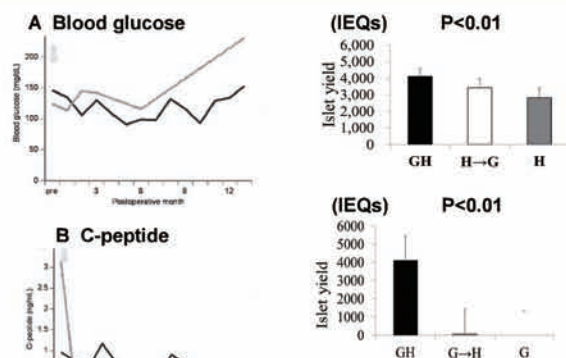

Fig. 2. A blood glucose, B, serum C-peptide after TP with IAT in patients.
(1) Clinical Experiences in the treatment of AVM by TP with IAT
The numbers of isolated islets and total tissue volume were 355,270 islet equivalents (IEQ) and 5.7 mL (patient 1), 244,758 IEQ and 16.0 mL (patient 2), and 310,238 IEQ and 1.0 mL (patient 3). Many larger clusters derived from a cystic lesion were detected in patient 2. Thus, we had to stop patient 2's transplantation when half of the islets were transplanted. Fig.2 shows the postoperative courses of the patients. The blood glucose levels were well controlled using low-dose insulin injection in patients 1 and 3. The blood glucose of the recipients was well maintained without hypoglycemia, and a substantial level of fasting C-peptide was observed under a low dose of daily insulin supplementation (1).
(2) Collagenase H is crucial for isolation of rat pancreatic isles